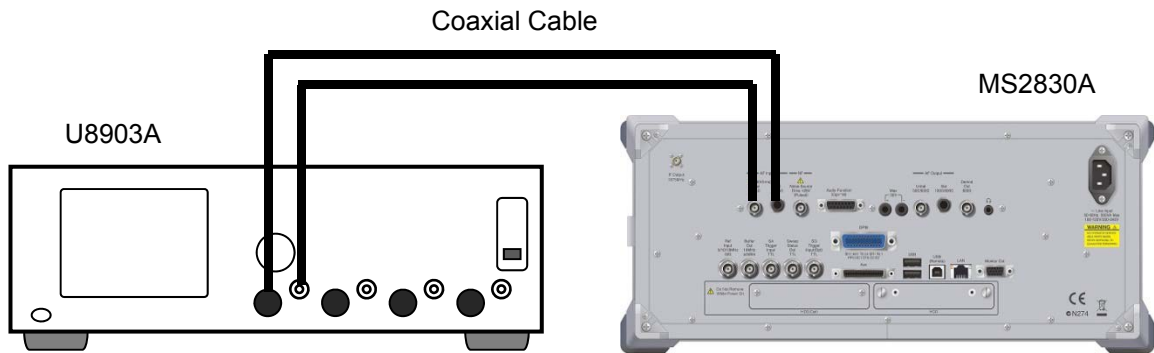

Figure 4.3.2-1 Connection for Input Level Accuracy Test
*: The input level to the MS2830A Audio Analyzer in Figure 4.3.2-1. Set the correction value of **Syscal_Unbal/Syscal_Bal** acquired in 4.3.1 “Output level calibration” in the U8903A.
1. Connect the devices according to Figure 4.3.2-1.